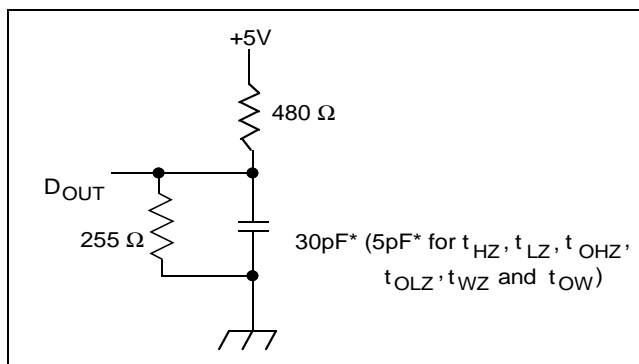

Figure 1. Output Load
4. Transition is measured  $\pm 200$  mV from steady state voltage prior to change, with loading as specified in Figure 1. This parameter is sampled and not 100% tested.
Output Load	See Figures 1 and 2